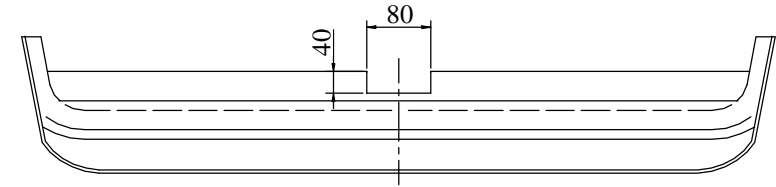

Fig. 2
2. Slip the main bar of the towing hitch (pos. 1) into chassis members and through its holes and holes in towing hitch (pos. A) screw them using bolts M10x30mm (pos. 5) from accessories. Use washers (pos. 6).
3. After cut off fragment the bumper (80x40mm as shown in the fig. 2) assemble it.
4. Fix body of the automat (pos. 7) and the socket plate (pos. 3) using bolts M12x25mm (pos. 4) from accessories. Place tow-ball (pos. 2) according to supplied instruction.